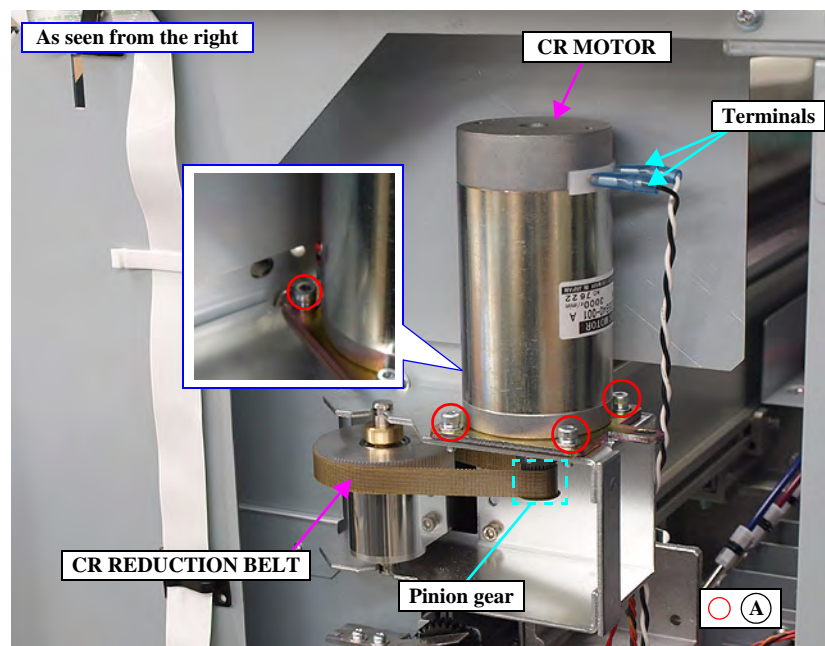

Figure 4-120. Removing the CR MOTOR
6. Loosen the four screws that secure the CR MOTOR on the right side to relieve the tension of the CR REDUCTION BELT. *See Figure 4-120.*